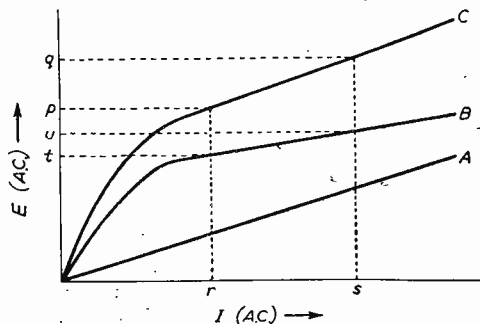
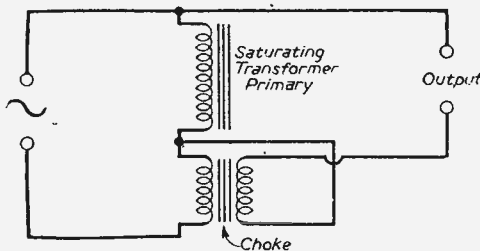
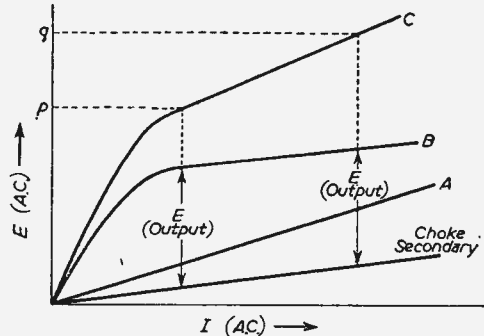

Fig. 2.—Current voltage relationship for various conditions.
Fig. 3.—Secondary wound on choke and connected in series with saturating coil.
Fig. 4.—Graph of results obtained by a set-up as in Fig. 3.
Fig. 2 shows on the same diagram the voltage current
curves for a linear choke, i.e., one whose core is not allowed to run into saturation (A); a saturating transformer primary (B); and for the pair in series (C), which is obtained by adding the voltages across the other two. It will be noticed that the curve C has no sharp current run-off, as did that of the transformer alone; in fact, it tends to become parallel to curve A. The sum of the voltages across choke and transformer is of course the mains input voltage. Suppose that this voltage changes from the value  $p$  to the value  $q$ , Fig. 2. This will result in a current change from  $r$  to  $s$ , which means that the voltage on the transformer primary changes from  $t$  to  $u$ —obviously a very much smaller change, not only in absolute value but also a smaller percentage change. Not true constant voltage yet. But now suppose that we wind a small secondary on the choke, and arrange it so that it produces a voltage change equal and opposite to that on the transformer primary. All we now have to do is to connect this in series with the saturating coil, and the net output will be constant. The arrangement is shown in Fig. 3 and the relative graph in Fig. 4. This circuit has the snag that it always gives an output at lower voltage than the mains, and so in practice the modified version of Fig. 5 is adopted; here the output from each component is stepped up so that the difference between them is equal to the desired voltage. The curves of Fig. 4 still apply, of course, each output being increased in the same proportion.